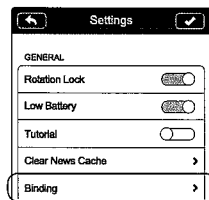
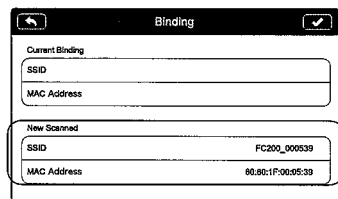
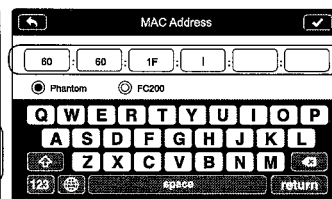

Figure 36
Figure 38
Figure 39
- (1) Power on the camera and Range Extender.
- (2) Approximately 30 seconds later, press the Binding Reset Button on the Range Extender with a pin until the SYSTEM Indicator turns off. The Range Extender will then restart automatically.
- (3) Approximately 30 seconds later, the SYSTEM Indicator will start to blink green, indicating that the Range Extender is ready for binding.
- (4) Enable Wi-Fi on your mobile device then select "Phantom_XXXXXX" (the SSID of your Range Extender) from the Wi-Fi network list.
- (5) Run the DJI VISION App then tap -> Settings -> General -> Binding (Figure 36). Select 'Scan QR Code' to scan the camera QR code on the bottom of aircraft (Figure 37). Get the camera SSID (E.g. FC200_XXXXXX) and the MAC address (Figure 38). You can also skip the scan and enter the camera MAC address directly (Figure 39). The MAC address can be found on the camera label.
- (6) Tap the tick ☒ in the top right corner. The Range Extender should automatically restart. Binding is now complete.